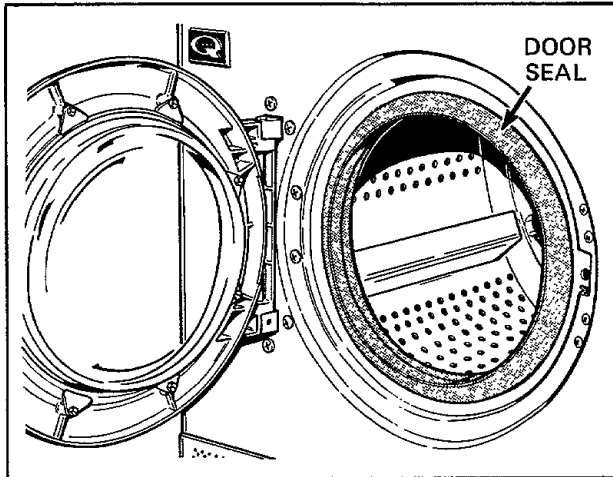

Figure 14
- f. Disengage door seal from front panel flange, *Figure 14*.